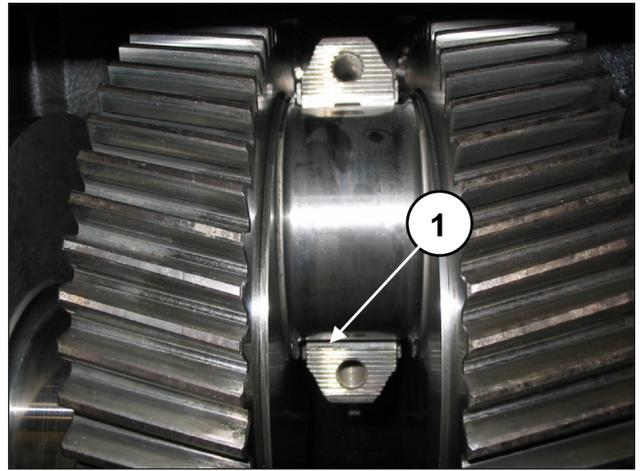

Fig. 81
**For proper assembly of the half-bearings, ensure that the reference tab on the half-bearings are positioned in their housing on the half support (pos. ①, Fig. 81).**